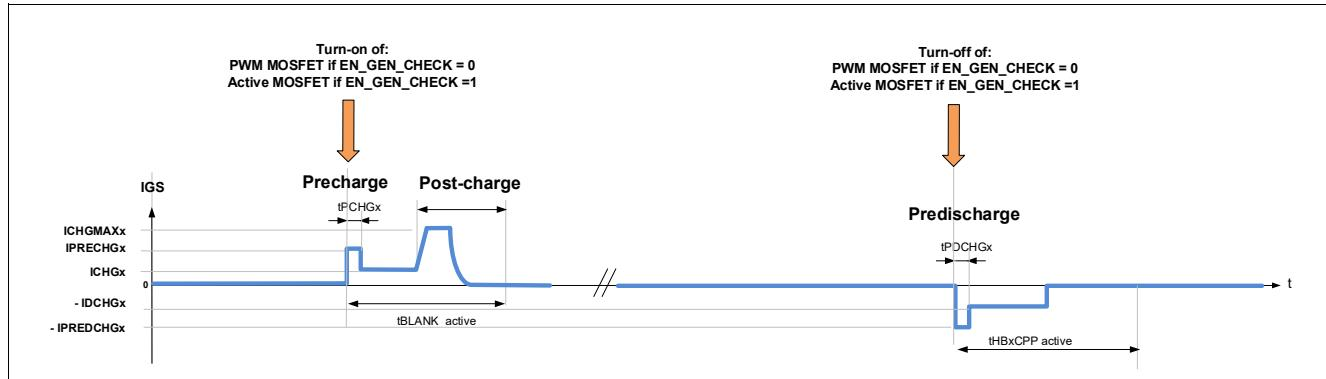

Figure 46 PWM overview - AGC = 10_B or 11_B, POCHGDIS=0 (post-charge enabled)
- **POCHGDIS = 0:** After the charge phase, the control signal for the charge current of LSx is increased by one current step at every bridge driver clock cycle (**BDFREQ**) to ICHGMAXx. Refer to Figure 46